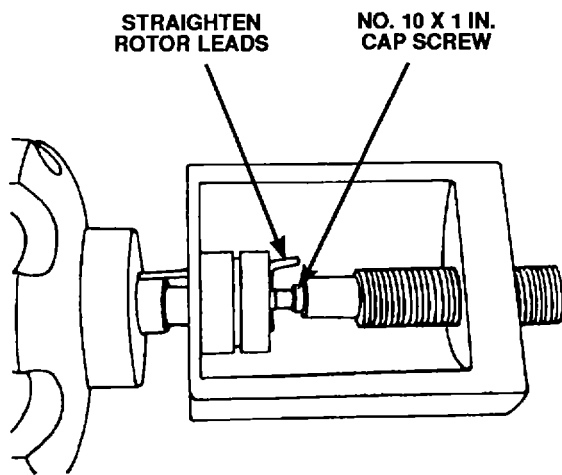

Figure 4-66. Removing Slip Ring Assembly
- l. Slip ring removal. This is only necessary if the slip rings are worn beyond reuse or if the rear bearing must be replaced. Unsolder ends of rotor leads from slip ring terminals. Carefully unwind the ends of the rotor coil leads from the slip ring terminals. Straighten rotor leads. Insert a No. 10 x 1-inch cap screw into the opening at the center of the slip ring assembly. Position bearing puller (figure 4-66) and remove slip rings from rotor shaft. Slip ring assembly will usually slide off shaft. Use care not to damage leads. Slip ring may be cleaned with a fine crocus cloth.